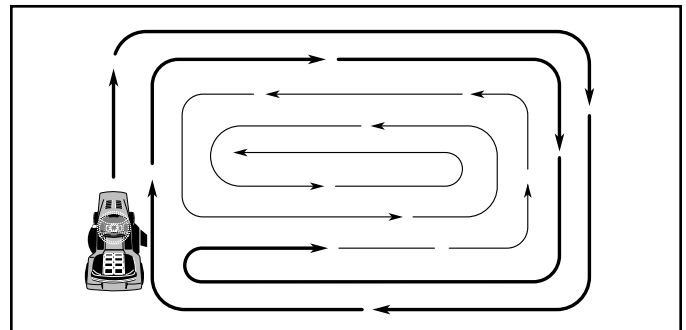

FIG. 11
- When mowing large areas, start by turning to the right so that clippings will discharge away from shrubs, fences, driveways, etc. After one or two rounds, mow in the opposite direction making left hand turns until finished (See Fig. 11).